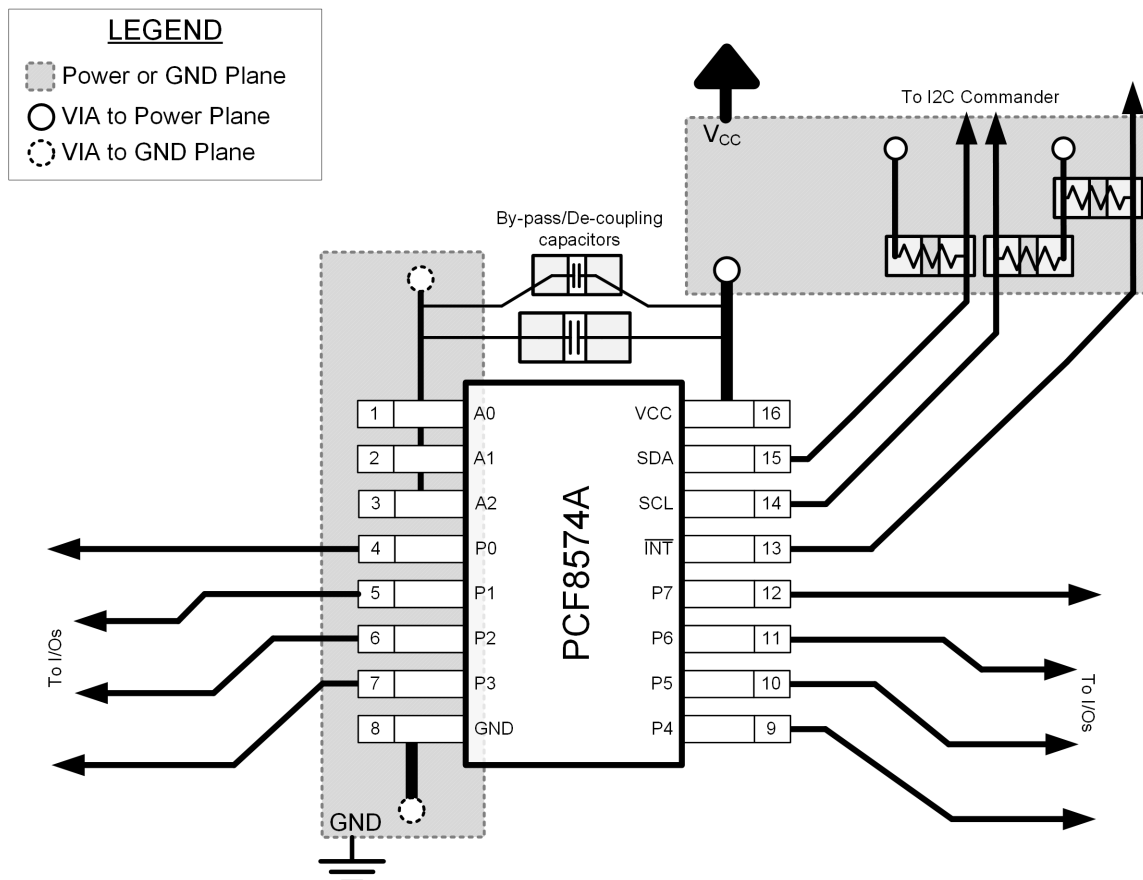

图 11-1. Layout Example for PCF8574A
When the I/Os are used to control LEDs, normally they are connected to  $V_{CC}$  through a resistor as shown in Figure 11-1. For a P-port configured as an input,  $I_{CC}$  increases as  $V_I$  becomes lower than  $V_{CC}$ . The LED is a diode, with threshold voltage  $V_T$ , and when a P-port is configured as an input the LED will be off but  $V_I$  is a  $V_T$  drop below  $V_{CC}$ .
In all PCB layouts, it is a best practice to avoid right angles in signal traces, to fan out signal traces away from each other upon leaving the vicinity of an integrated circuit (IC), and to use thicker trace widths to carry higher amounts of current that commonly pass through power and ground traces. By-pass and de-coupling capacitors are commonly used to control the voltage on the  $V_{CC}$  pin, using a larger capacitor to provide additional power in the event of a short power supply glitch and a smaller capacitor to filter out high-frequency ripple. These capacitors should be placed as close to the PCF8574A device as possible. These best practices are shown in Figure 11-1.
For the layout example provided in Figure 11-1, it would be possible to fabricate a PCB with only 2 layers by using the top layer for signal routing and the bottom layer as a split plane for power ( $V_{CC}$ ) and ground (GND). However, a 4 layer board is preferable for boards with higher density signal routing. On a 4 layer PCB, it is common to route signals on the top and bottom layer, dedicate one internal layer to a ground plane, and dedicate the other internal layer to a power plane. In a board layout using planes or split planes for power and ground, vias are placed directly next to the surface mount component pad which needs to attach to  $V_{CC}$  or GND and the via is connected electrically to the internal layer or the other side of the board. Vias are also used when a signal trace needs to be routed to the opposite side of the board, but this technique is not demonstrated in Figure 11-1.